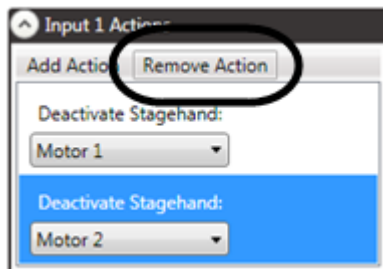

Figure 194
2. In the **Input (1, 2, 3 or 4) Action** section of the **FX Editing Pane**, highlight the desired action and press **Remove Action** (Figure 194).